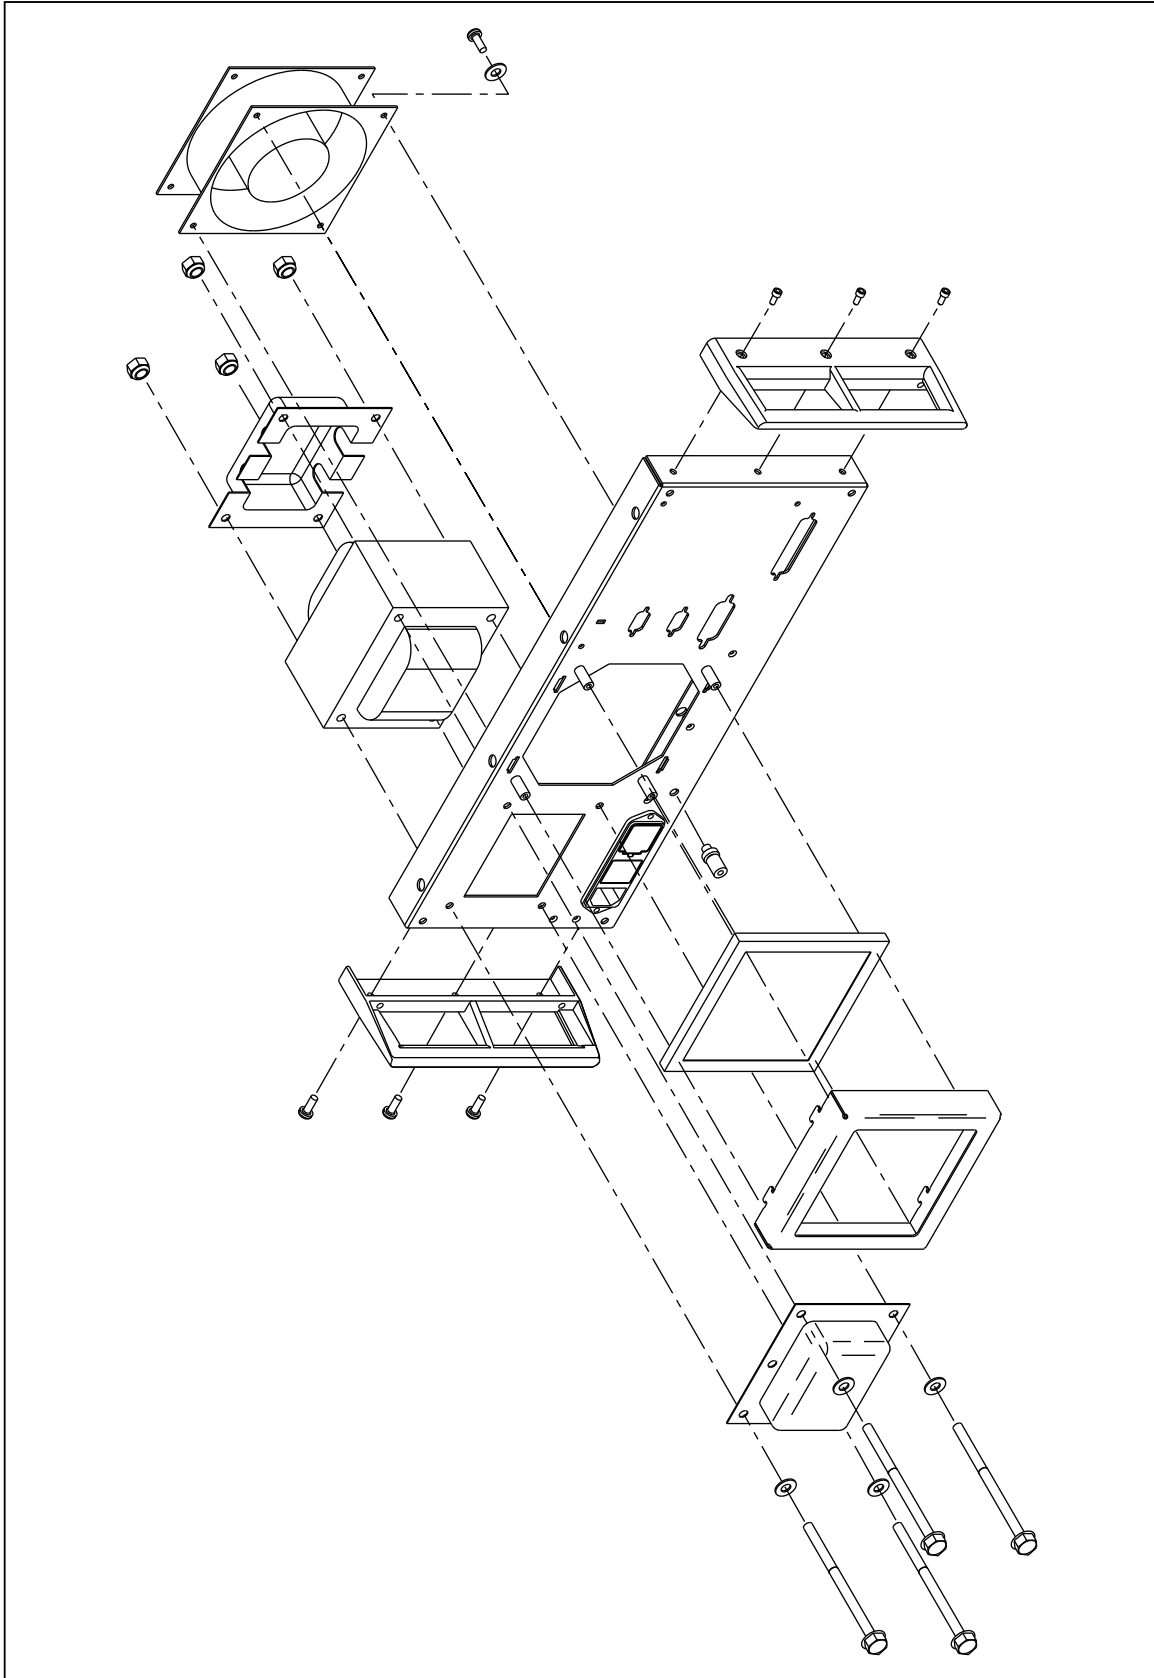

Figure 4-1. Exploded View of Rear-Panel Assemblies
*Figure 4-1 shows an exploded view of the rear-panel assemblies.*